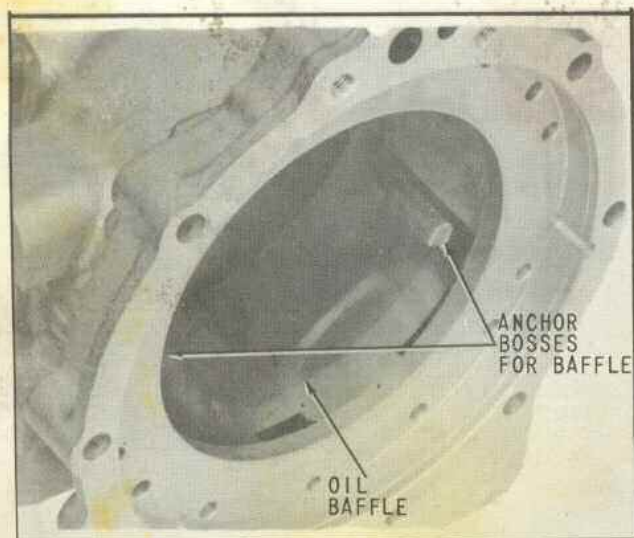

Fig. 24 Model 70B & 70C Oil Baffle Properly Installed
5. Press down on the baffle and snap the rectangular slots at each end on to the cast bosses at each side of the case, (Fig. 24). These bosses will position and hold the baffle in its proper place.